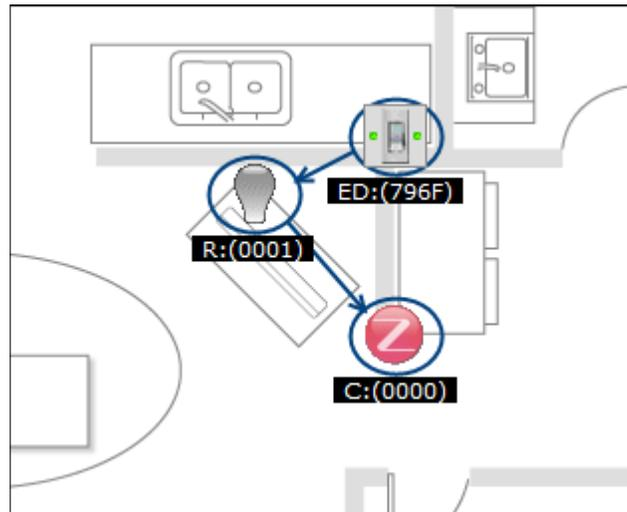

Figure 4-12. New Binding Made from the On/Off Switch to the On/Off Light
10. As shown in Figure 4-12, users can now see a new binding shown as an arrow from the On/Off Switch to the On/Off Light on the ZeD Binding View in the ZeD main window.